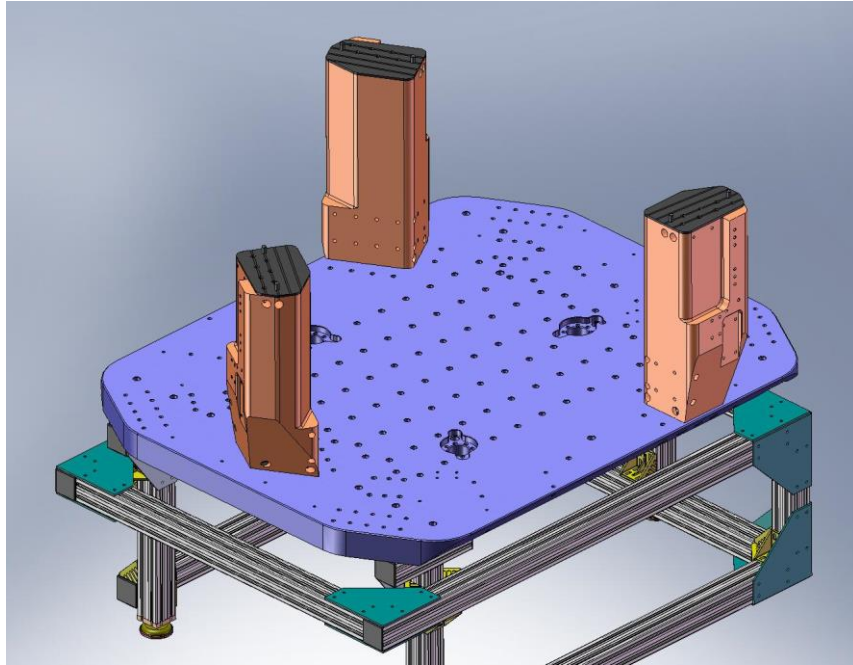

Figure 2.21. Support Post Caps placed on the Support Posts. Later, the Springs will be mounted on top of the Caps.
- Place (3) **Support Post Caps** (D071003) on top of the **Support Posts**, as shown in Figure 2.21. There are a hole and a slot in each **Cap**, which should slip around the dowel pins in the **Posts**.